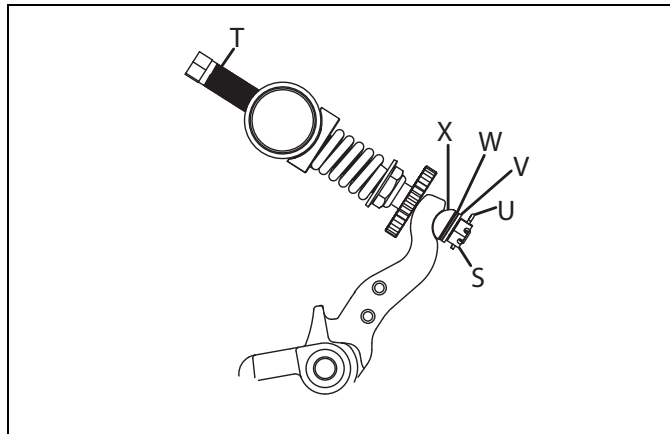

Figure 9G
1. Remove cotter pin **(U)**, slotted nut **(S)**, bellville washer **(V)**, shim washer **(W-If required)**, and half trunnion **(X)**. **See Figure 9G**